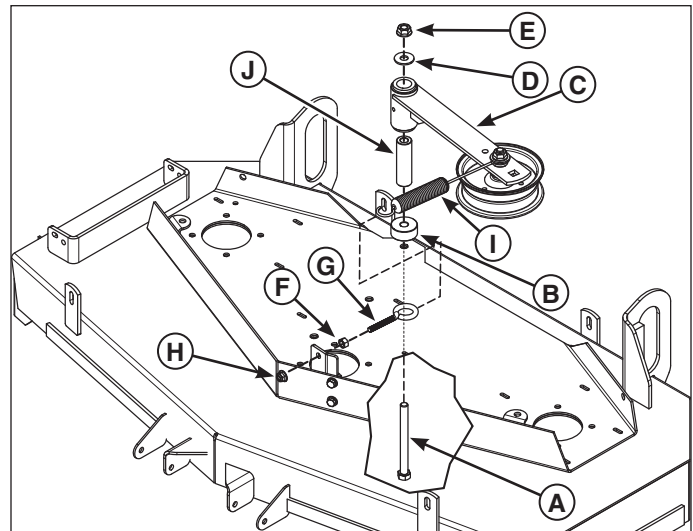

Figure 11. Installing the Idler Arm
1. Install the 1/2 X 5-1/2" (A, Figure 11) up through the mower deck, the .51 X 1.75 X .75 spacer (B), the pivot bushing (J), the idler arm (C), the 1/2" USS washer (D) and secure with the 1/2 nylock flange nut (E).
2. Install the 3/8 hex jam (F) nut onto the eyebolt (G).
3. Attach the eyebolt to the belt tensioner spring (I).
4. Route the eyebolt through the hole in the belt tension anchor bracket and secure in place with the 3/8 nylock flange nut (H).